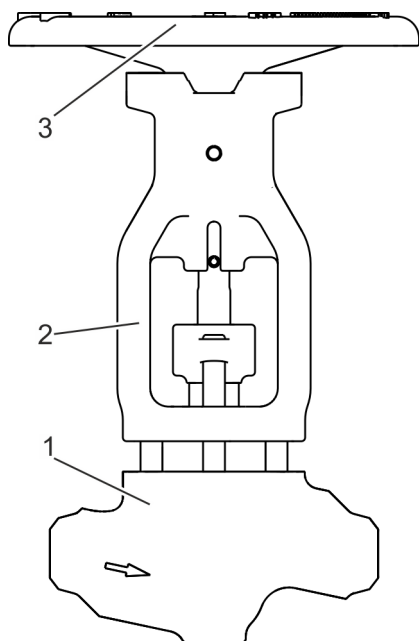

Fig. 23: Activating the handwheel
6. ▶ Activate the handwheel (Fig. 23/3) in the close direction.
- ⇒ The bonnet (Fig. 23/2) lifts off of the body (Fig. 23/1).